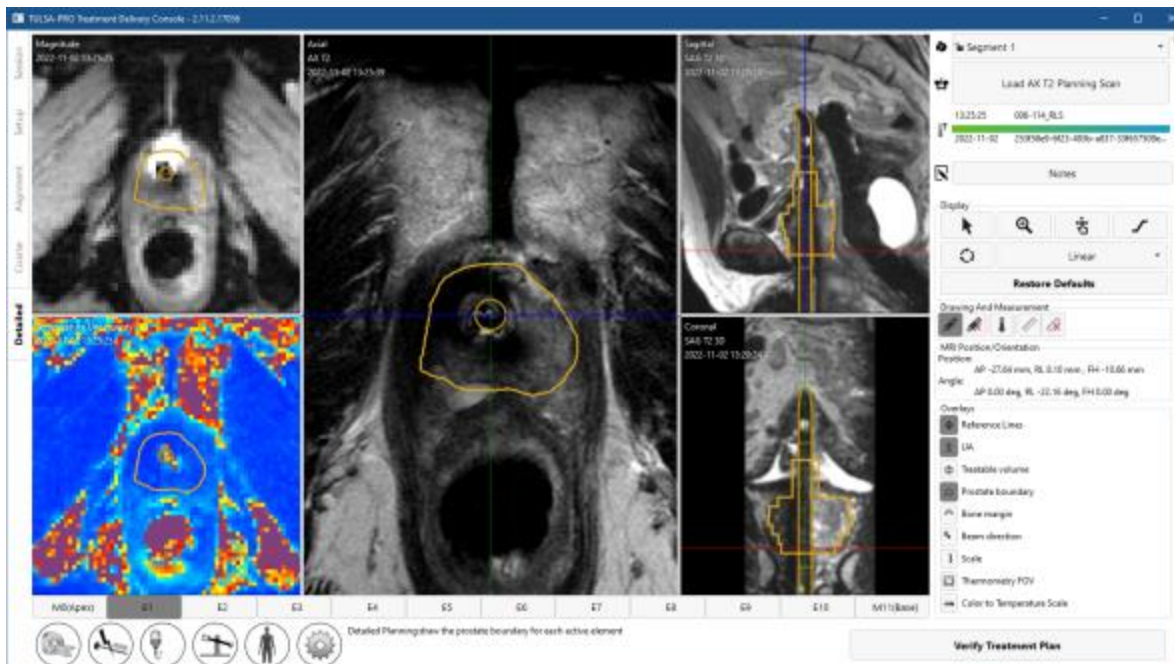

Figure 39: Detailed Planning after drawing boundaries
- To draw the prostate boundary, select the drawing tool and outline the tissue to be ablated on each slice based on the corresponding AX T2 and THERM magnitude images (Figure 39). You can select individual slices by clicking on the numbered tab at the bottom of the screen or by pressing the left and right arrow keys on the keyboard. Use the sagittal and coronal views of the SAG T2 images to verify the intended ablation zone in three dimensions.